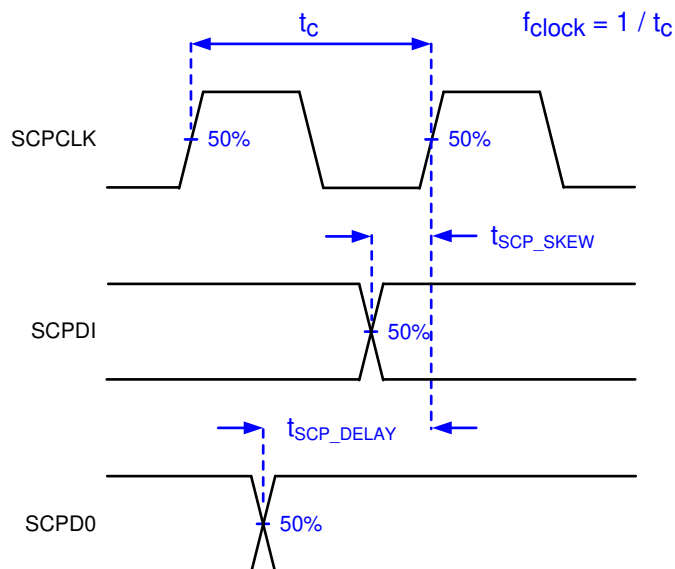

图 6-3. Serial Communications Bus Timing Parameters
- (5) PWRDNZ input pin resets the SCP and disables the LVDS receivers. PWRDNZ input pin overrides SCPENZ input pin and tri-states the SCPDO output pin.
- (6) The SCP clock is a gated clock. The duty cycle shall be 50% $\pm$ 10%. SCP parameter is related to the frequency of DCLK.
- (7) Refer to 図 6-3.
- (8) SCP internal oscillator is specified to operate all SCP registers. For all SCP operations, DCLK is required.